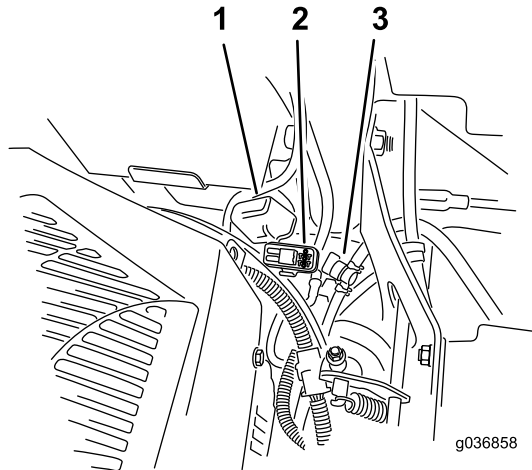

Figure 53
**Note:** For MyRide machines, ensure that the ground cable does not rub against the trailing arm or lower shock mount (Figure 53).
The fuses are located on the right console next to the seat (Figure 53).
2. Install a new fuse (Figure 53).